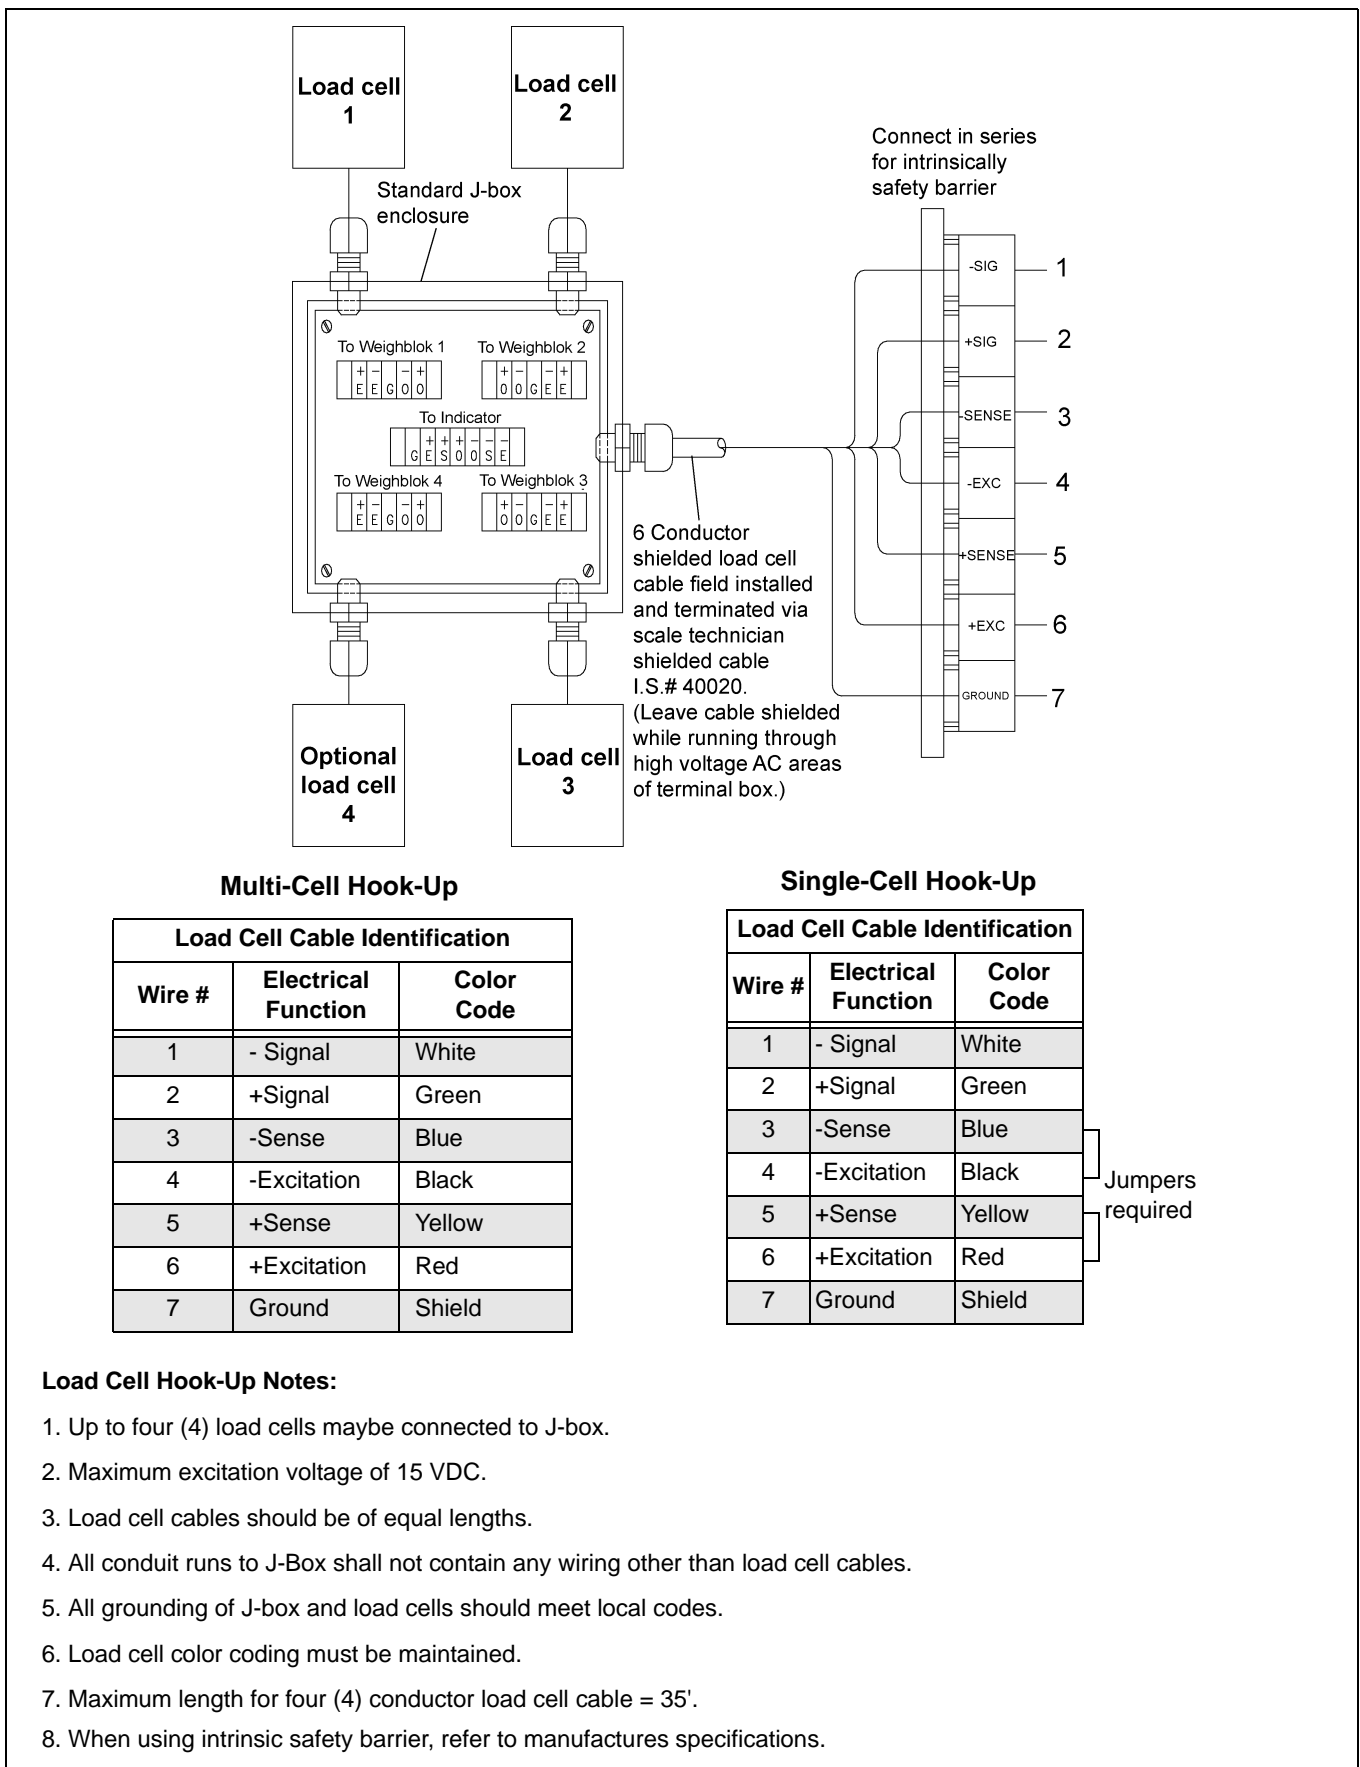

Figure 2C Load Cell Termination Details
13. Have a scale technician terminate the load cells to the summing board in the J-box. Do not cut off any of the excess cable, for each cable must remain the same length. The scale technician should then terminate the home run load cell cable to the other side of the summing board inside the J-box. Refer to the load cell terminal detail as shown in Figure 2C on Page 13.